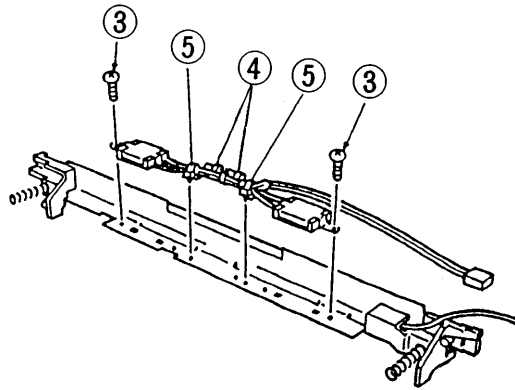

Figure 4-326
- 7) While butting the two heaters against the transfer guide as shown in Figure 4-326, fix them in place using two screws (3); then, fix the harness using two harness bands (4) (front, rear).
- 8) Fix the harness with two SK binders (5) (front, rear) in place, and insert it into the transfer guide.